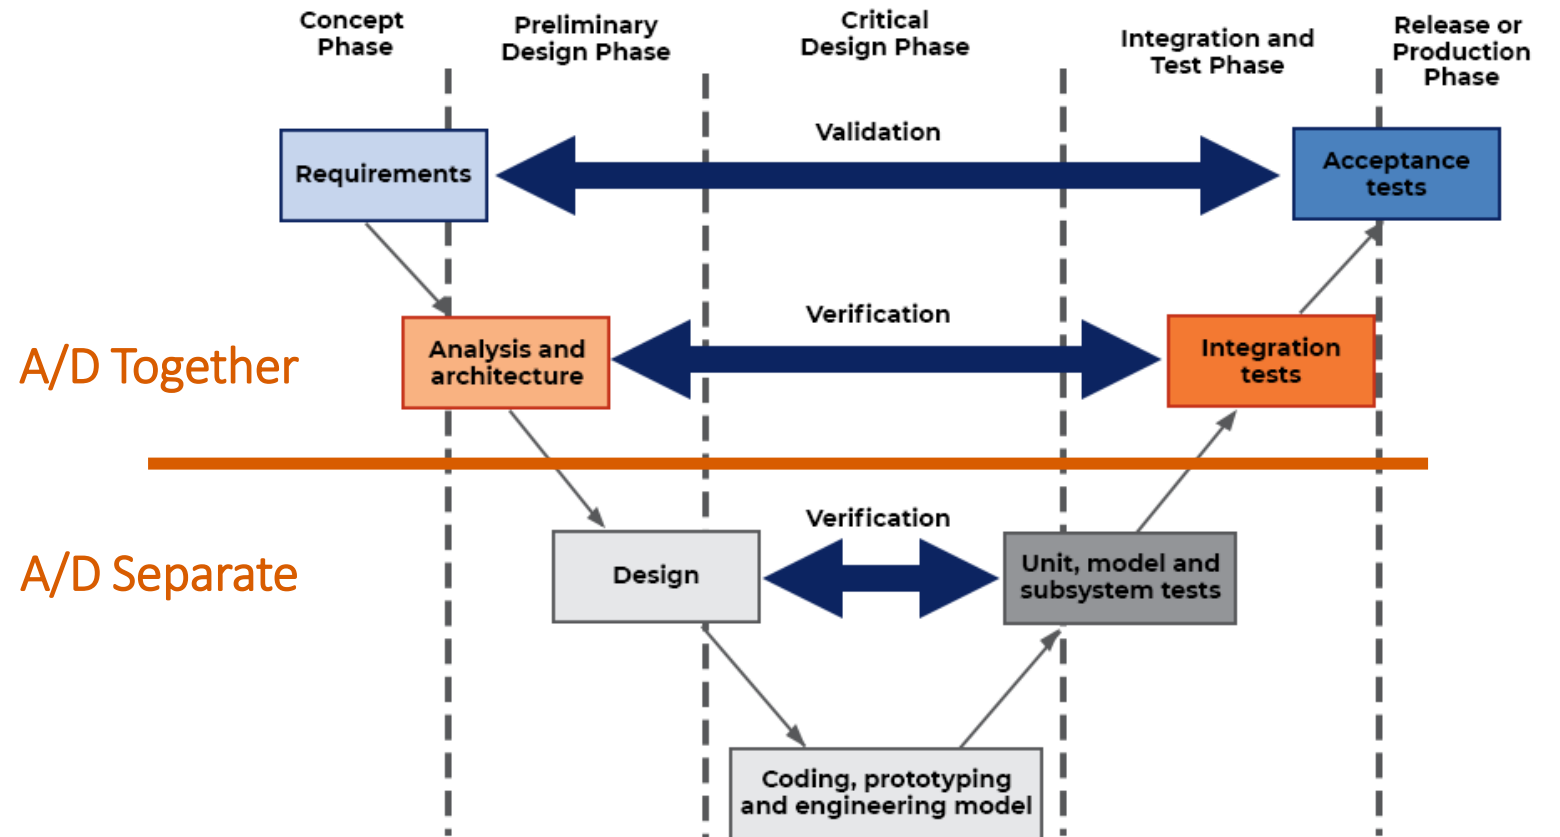

Figure 1: V-Model of Project Management
- Work carried out through the V-Model of Product Development (Figure 1)